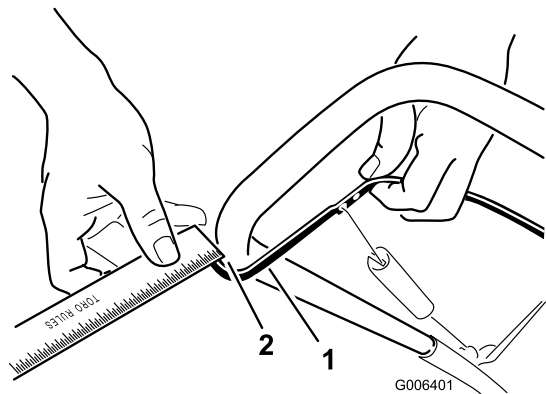

Figure 16
**Note:** Ensure that a 2 to 3 mm (1/16 to 1/8 inch) gap exists between the control bar and the handle (Figure 16).
Move the control bar back toward the handle to remove the slack in the control cable (Figure 16).
2. Move the Z-fitting to a higher or lower hole on the adjuster link as needed to obtain the 2 to 3 mm (1/16 to 1/8 inch) gap between the control bar and the handle (Figure 16).